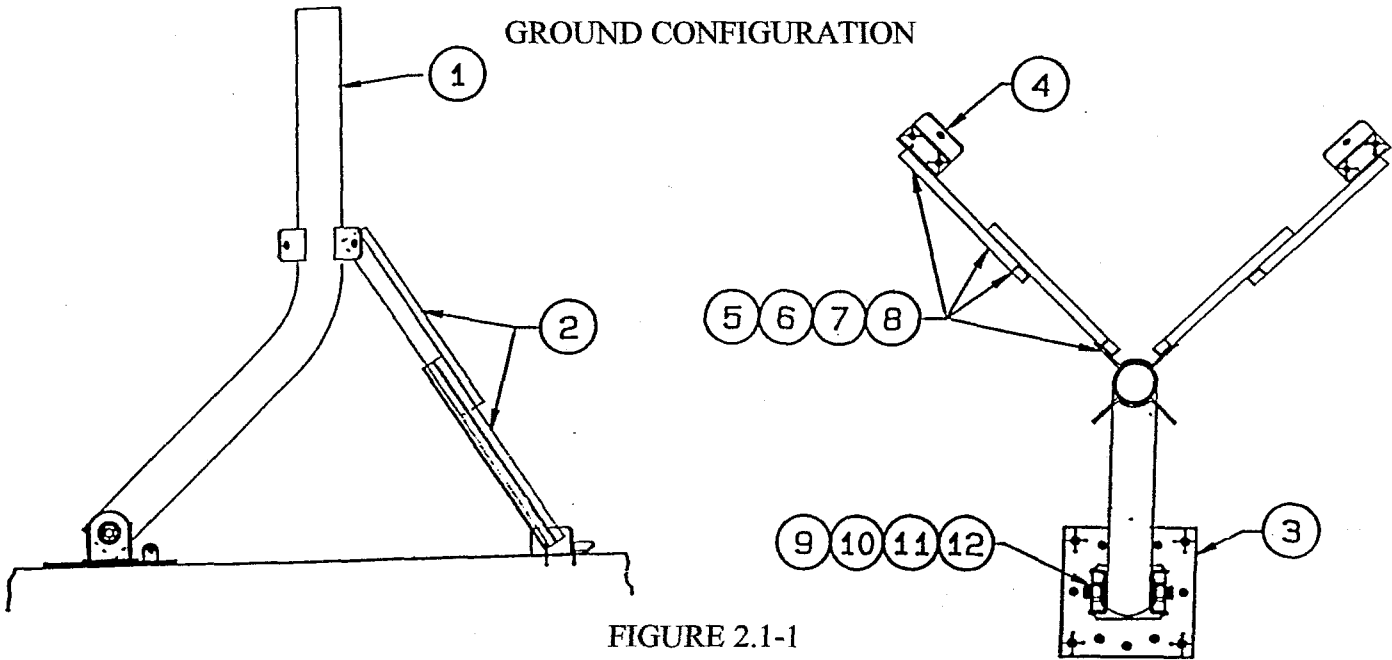

FIGURE 2.1-1
- 2.1.1 Assemble the legs by placing two of the leg channels (item# 2) back to back and securing with (2) 1/2-13 x 1.50" bolts, (4) flatwashers, (2) lockwashers, (2) 1/2-13 hex nuts (items# 5, 6, 7, 8). Tighten this hardware snug-tight only, so that the legs may be adjusted for length. See figure 2.1-1 and 2.1-2.
- 2.1.3 For wall mounting, as shown in figure 2.1-1, it may be easier to attach the leg mounting brackets (item# 4) and base plate to the wall first, then attach the leg assemblies to the brackets (item# 3). Attach the mast to the base plate as in 2.1.2 with the 1 inch hardware (items# 9, 10, 11, 12). Swing the mast up and the legs out until the legs can be attached to the mast with the 1/2 inch hardware (items# 5, 6, 7,8). Check the mast for verticality and then fully tighten all hardware and anchor bolts.